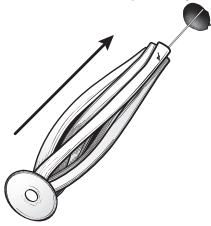

FIGURE 2a
- Once the suture is visible at the external (secondary) opening, slowly draw the GORE BIO-A Fistula Plug into the defect until slight resistance is felt and the device disk is securely seated at the internal (primary) opening (Figures 2a, 2b, 2c).